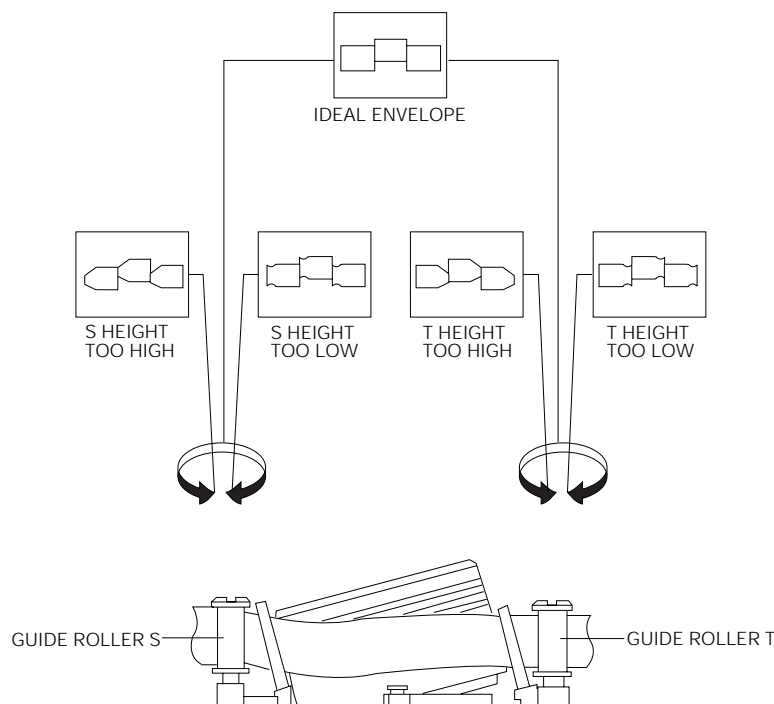

Fig. 4-5-9 Guide Roller S, T Height Adjustment
8. Turn the guide roller heads with a flat head () driver to obtain a flat video RF envelope as shown in Fig. 4-5-9.